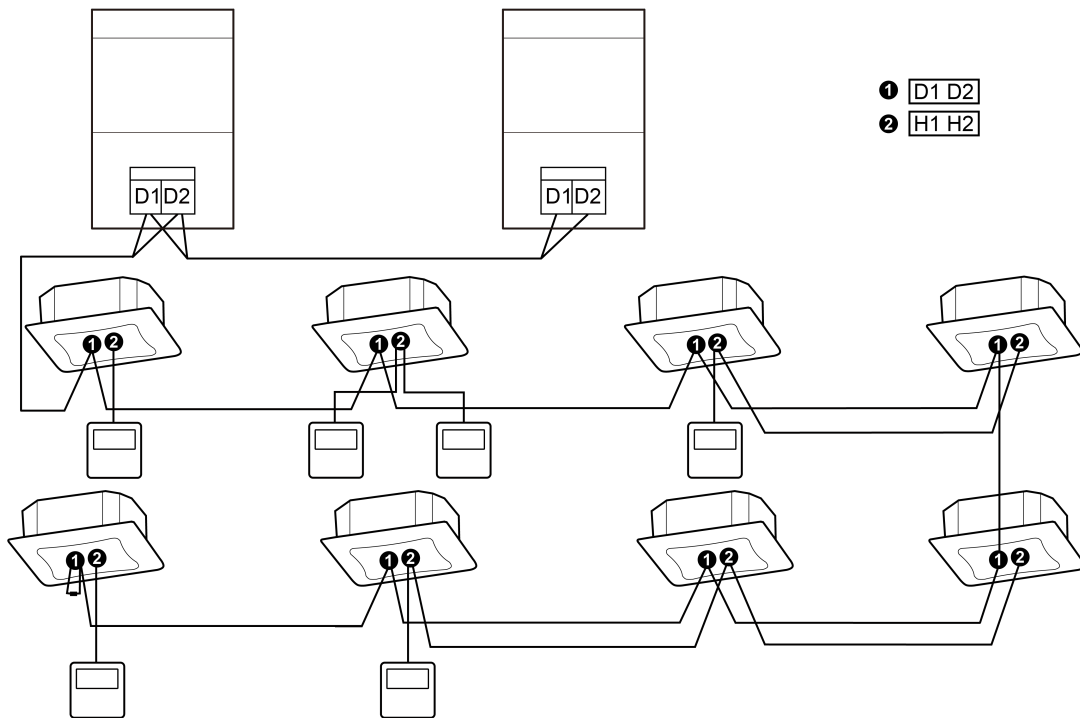

Fig.5.5
- (1) Communication wire of indoor unit and outdoor unit (or indoor unit) is connected to D1, D2.
- (2) Wired controller is connected to H1, H2.
- (3) One indoor unit can connect two wired controllers that must be set as master one and slave one.
- (4) One wired controller can control 16 indoor units in maximum at the same time (As shown in Fig.5.5) top using it immediately and contact local service center for assistance.